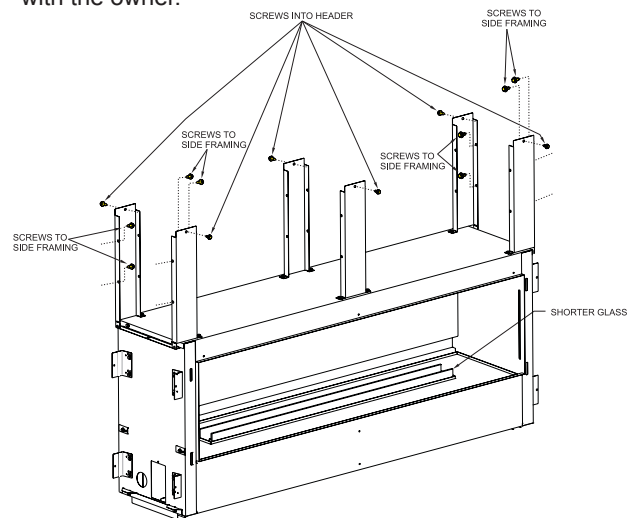

Figure 20
4. Secure six framing brackets with drywall screws to the framed opening above the fireplace as shown in **Figures 20 to 23**. Top brackets should be installed to support the ends of the non-combustible board. Note: The drywall screws are located in the instruction envelope packet. Secure the left and right standoffs to the side framing as shown in **Figure 20**. Secure the fireplace on the left and right through the framing brackets.
12. Retrieve shorter glass and install on both sides of burner. **See Figure 20**.